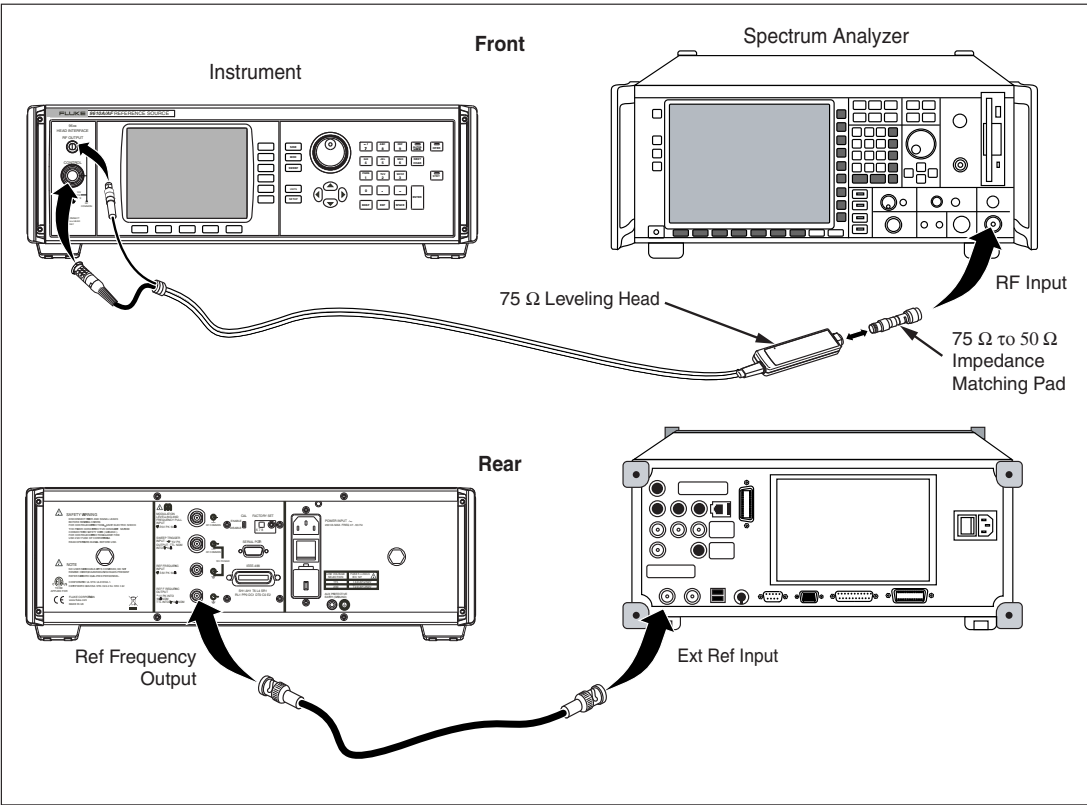

Figure 5-11. Equipment Connections- Level Accuracy Tests (75 Ω), Low Level Points
19. Connect the Leveling Head to the RF INPUT of the measuring receiver and connect the REF FREQUENCY OUTPUT (rear panel) from the UUT to the spectrum analyzer Ext Ref In (on rear). See Figure 5-11 for equipment connections.